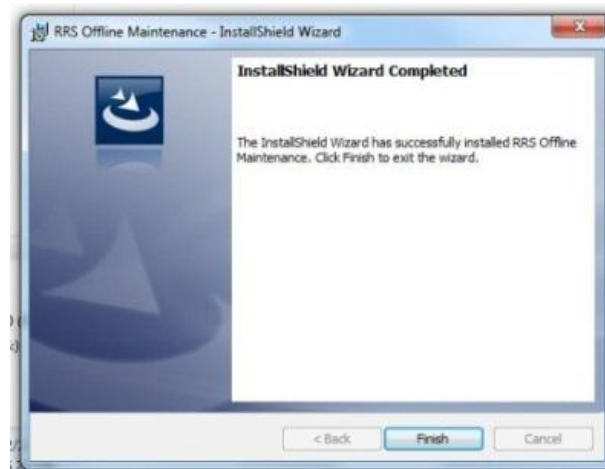

Figure C-11: OMS Installation Completed
21. Click **Finish**. OMS installation is complete (Figure C-11).